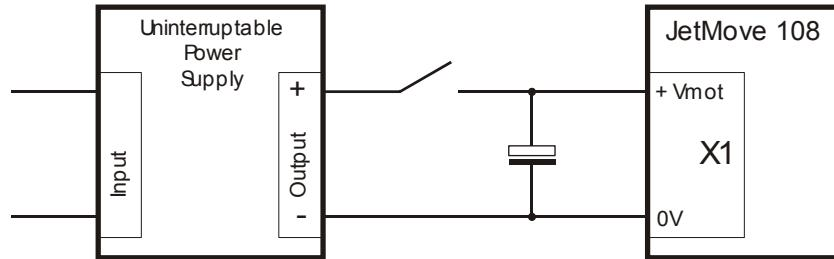

Fig. 9: Terminal X1 - Alternative inrush current limitation
- Install an external charging capacitor close to the JetMove 108, if the distance between power supply unit and the JetMove 108 is greater than 20 m. The charging capacitor must stand a high AC load. Electrolytic capacitors meet this requirement. For more information refer to Fig. 9.